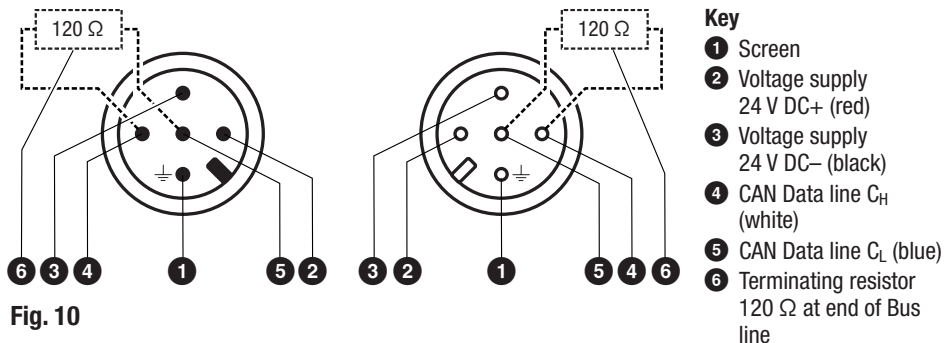

Fig. 10
The conductivity electrode is equipped with M12 sensor connectors (5 poles, A-coded), assignment see **Fig. 10**. Control cable assemblies (with connector and coupler) of various lengths are available as accessories.
If you do not use the preassembled control cable, connect the connector and the jack for the CAN bus lines according to the wiring diagram, **Fig. 10**.
- Connect the screen of the bus line to pin 1, **Fig. 10**.